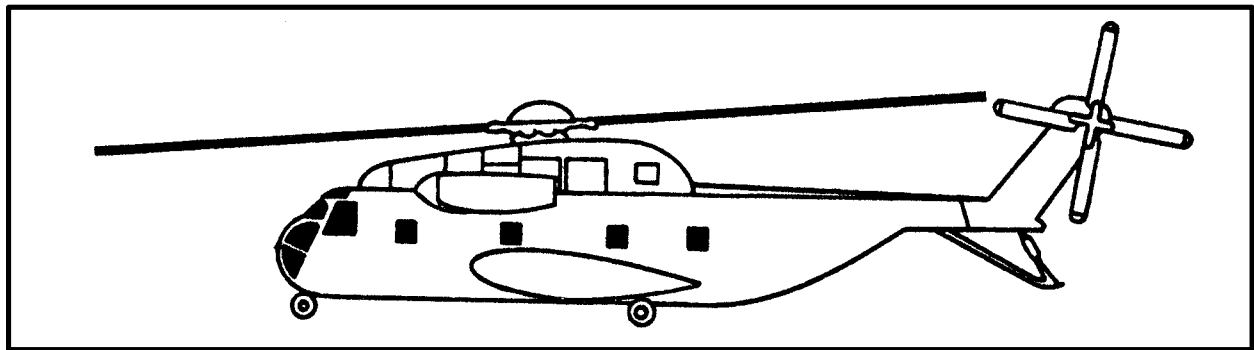
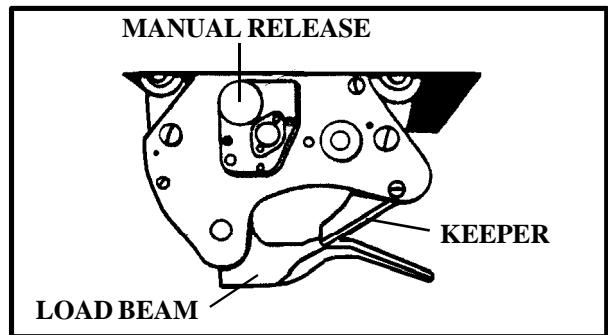

Figure 2-16. H-53A/D Stallion
Figure 2-17. H-53 Cargo Hook System
f. **H-53.** The H-53 Stallion (Figure 2-16) is a twin engine, single main rotor helicopter produced by Sikorsky Aircraft. Its primary mission is to either aerial deliver supplies and equipment or conduct airborne mine countermeasures (mine sweeping). The maximum capacity of the single cargo hook is 20,000 pounds (Figure 2-17). The cargo hook is suspended from an opening in the floor. The AC6000500 Mod-1 pendant system can be used with this aircraft. The aircrew can open the cargo hook electrically or manually. A manual release knob is located on the right side of the hook. In an emergency, the ground crew can rotate the manual release knob clockwise to open the cargo hook, if directed by the aircrew. If the manual release knob fails to open the cargo hook, the hook is not usable and another aircraft must be used to lift the load.